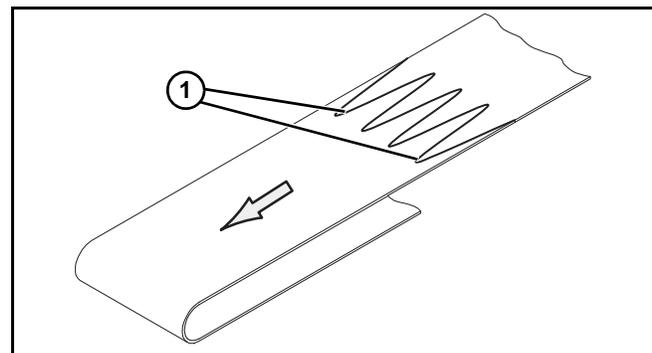

Figure 74
- Orient the conveyor belt so that the splice leading fingers (**Figure 74, item 1**) point in the direction of belt travel, indicated by the label (**Figure 73, item 1**).